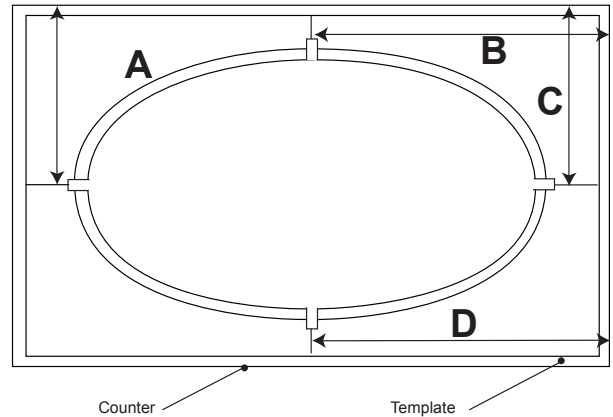

Figure 13 - Distance Measurement
- Measure the distance from the wall, or other fixed point, to the center lines (Figure 13).